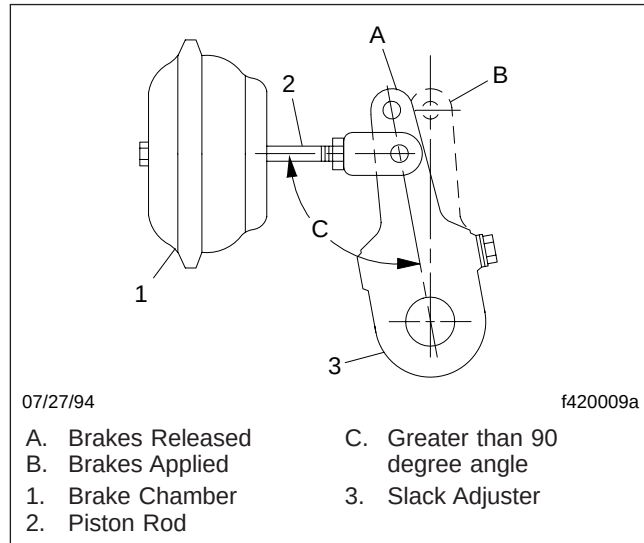

Fig. 1, Angle Between Piston Rod and Slack Adjuster
1. With the slack adjuster properly adjusted, check the angle formed by the centerline of the piston rod and slack adjuster. This angle should be greater than 90 degrees in the released position and approach 90 degrees in the applied position. See Fig. 1.